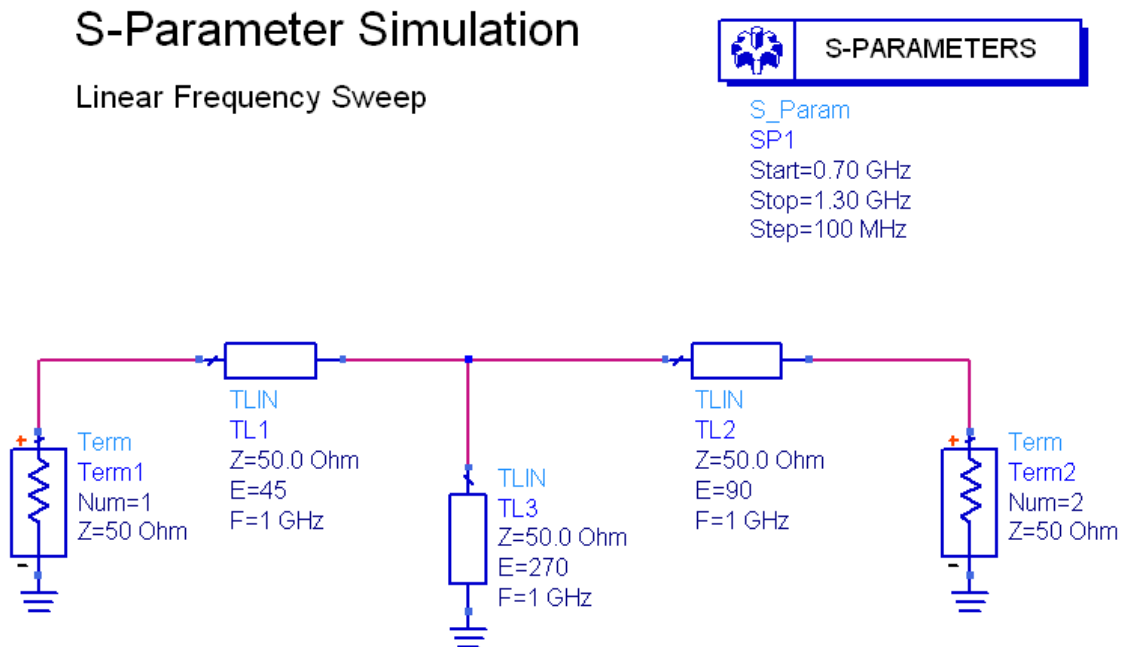

Figure 1.3 Simple transmission line circuit.
Simulate the simple transmission line circuit of Figure 1.3 and plot S_{11} on a Smith chart.
2. Replicate the transmission line network of Figure 1.3. **Save** your design.